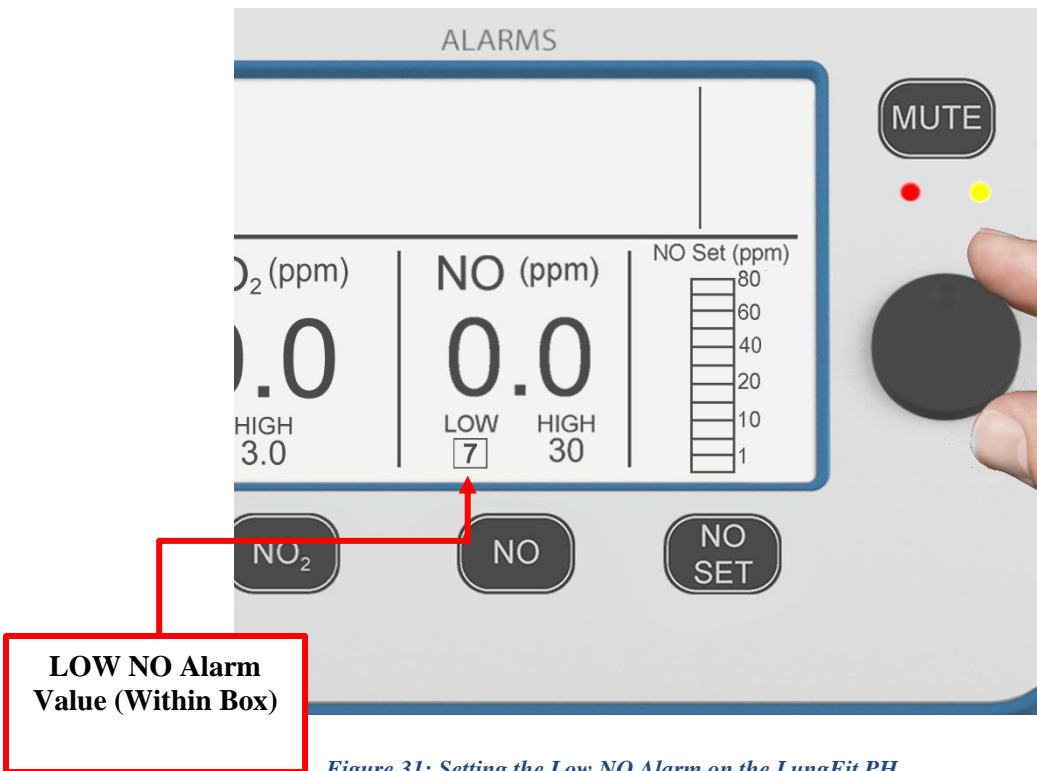

Figure 31: Setting the Low NO Alarm on the LungFit PH
- Press alarm adjustment button for the desired parameter (*see Figure 31*). Press button the appropriate number of times to access desired alarm parameter:
- Turn Adjustment Wheel (*see Figure 31*) to desired alarm level, as indicated by small number below alarm label.